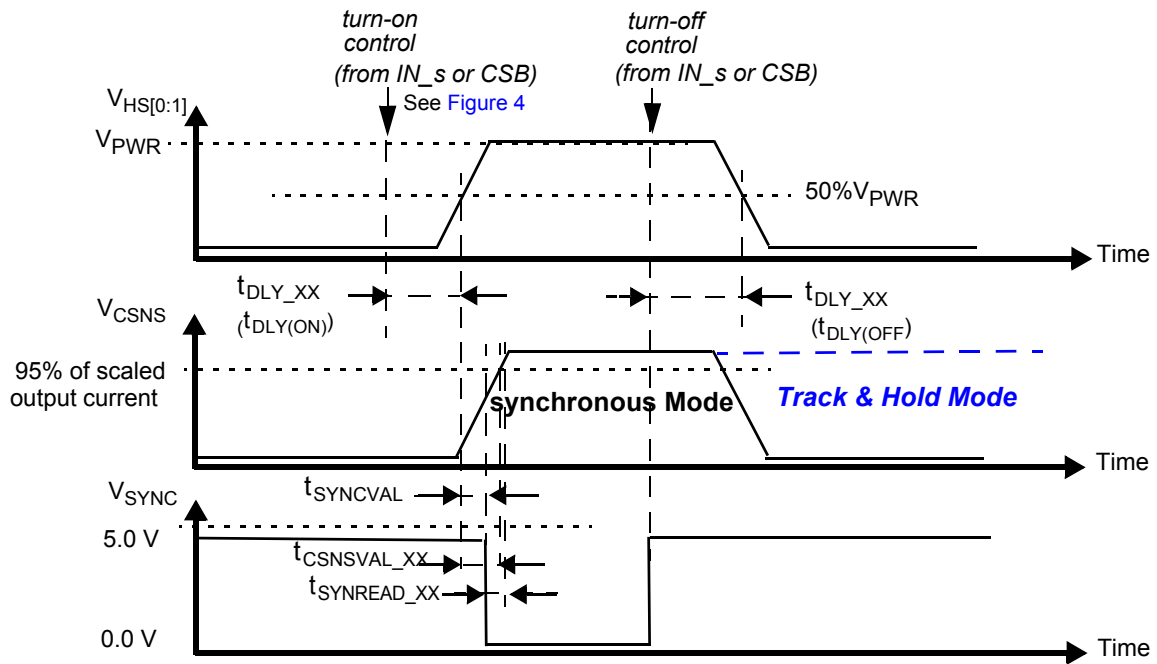

Figure 9. Synchronous and track-and-hold current sensing modes: associated delay and settling times
30. Time required to switch off the channel after detection of overtemperature (OT), overcurrent (OC), SC or UV error (time measured between start of the negative edge on the FSB pin and the falling edge on the output voltage until $V(\text{HS}[0:1]) = 50\%$ of V_{PWR}).
31. Settling time (= $t_{\text{CSNSVAL_XX}}$), SYNC output signal delay (= $t_{\text{SYNCVAL_XX}}$) and Read-out delay (= $t_{\text{SYNREAD_XX}}$) are defined for a stepped load current ($100\text{ mA} < I(\text{LOAD}) < \text{IOCLX A FOR CSNS_RATIO_S} = 1$, AND $300\text{ mA} < I(\text{LOAD}) < \text{IOCLX A}_0 \text{ FOR CSNS_RATIO_S} = 0$). (see Figure 9 and Output current monitoring \(CSNS\))
The CS pin allows independent current monitoring of channel 0 or channel 1 up to the steady-state overcurrent threshold. It can also be used to sense the device temperature. The different functions are selected by setting bits CSNS1_en and CSNS0_en to the appropriate value (Table 23). When the CSNS pin is sensed during switch-off in the (optional) track & hold mode (see Figure 9), it outputs the scaled value of the load current as it was just before turn-Off. When several devices share the same pull-down resistor, the CSNS pins of devices the current of which is not monitored must be tri-stated. This is accomplished by setting CSNS0_en = 0 and CSNS1_en = 0 in the GCR register (Table 10). Settling time ($t_{CSNSVAL_XX}$) is defined as the time between the instant at the middle of the output voltage's rising edge ($HS[0:1] = 50\%$ of V_{PWR}), and the instant at which the voltage on the CSNS-pin has settled to $\pm 5.0\%$ of its final value. Anytime an overcurrent window is active, the CSNS pin is disabled (see Overcurrent detection on resistive and inductive loads). The current and temperature sensing functions are unavailable in Fail-safe mode and in Normal mode when operating without the V_{DD} supply voltage. In order to generate a voltage output, a pull-down resistor is required ($R(CSNS)=1.0\text{ k}\Omega$ typ. and $470 < R(CSNS) < 10\text{ k}$). When the current sense resistor connected to the CSNS pin is disconnected, the CSNS voltage is clamped to $V_{CL(CSNS)}$. The CSNS pin can source currents up to about 5.6 mA.
To synchronize current sensing with an external process, the SYNC signal can be connected to a digital input of an external MCU. SYNC is asserted logic low when the current sense signal is accurate and ready to be read. The current sense signal on the CSNS pin has the specified accuracy $t_{SYNCREAD_XX}$ seconds after the falling edge on the SYNC pin (Figure 9) and remains valid until a rising edge is generated. The rising edge that is generated by the SYNC pin at the turn-OFF instant (internal or external) may also be used to implement synchronization with the external MCU. Parameter $t_{SYNCVAL_XX}$ is defined as the time between the instant at the middle of the output-voltage rising edge ($HS[0:1] = 50\%$ of V_{PWR}), and the instant at which the voltage on the SYNC-pin drops below 0.4 V (V_{SOL}). The SYNC pins of different devices can be connected together to save μ -controller input channels. However, in this configuration, the CSNS function of only one device should be active at a time. Otherwise, the MCU does not determine the origin of the SYNC signal. The SYNC pin is open drain and requires an external pull-up resistor to VDD.